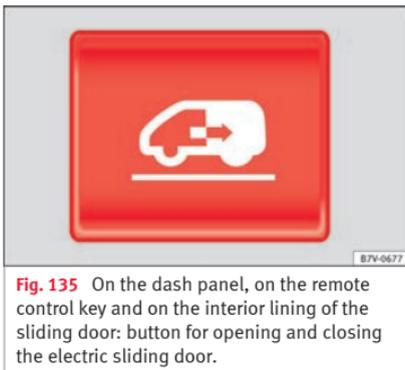

Fig. 135 On the dash panel, on the remote control key and on the interior lining of the sliding door: button for opening and closing the electric sliding door.
Opens the sliding door electrically.	Press the» Fig. 135 button on the dash panel, on the remote control key and on the interior lining of the sliding door. The sliding door opens with the rollback anti-trap function as long as the button is not pressed again.
Closing the sliding door electrically.	Press the» Fig. 135 button on the dash panel, on the remote control key and on the interior lining of the sliding door. The sliding door closes with the rollback anti-trap function as long as the button is not pressed again. As it closes, a warning sound is given.
- Press and hold the  **» Fig. 135** button.